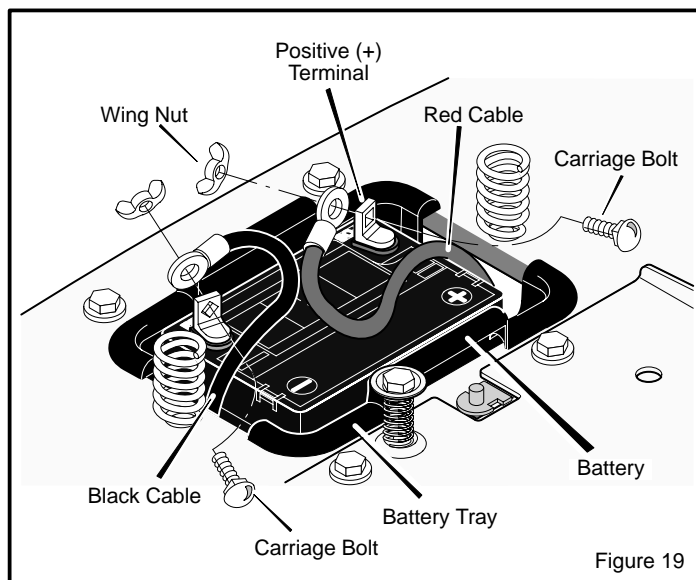

Figure 19
1. Disconnect the **black cable** from the negative (-) terminal (Figure 19).